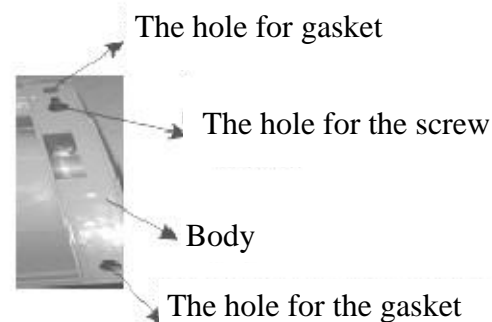

**Fig. 3**
- You need the following for installation: 2 soft inserts, 2 screws, 4 gaskets (all mentioned you will find in gift box). Fig.3.